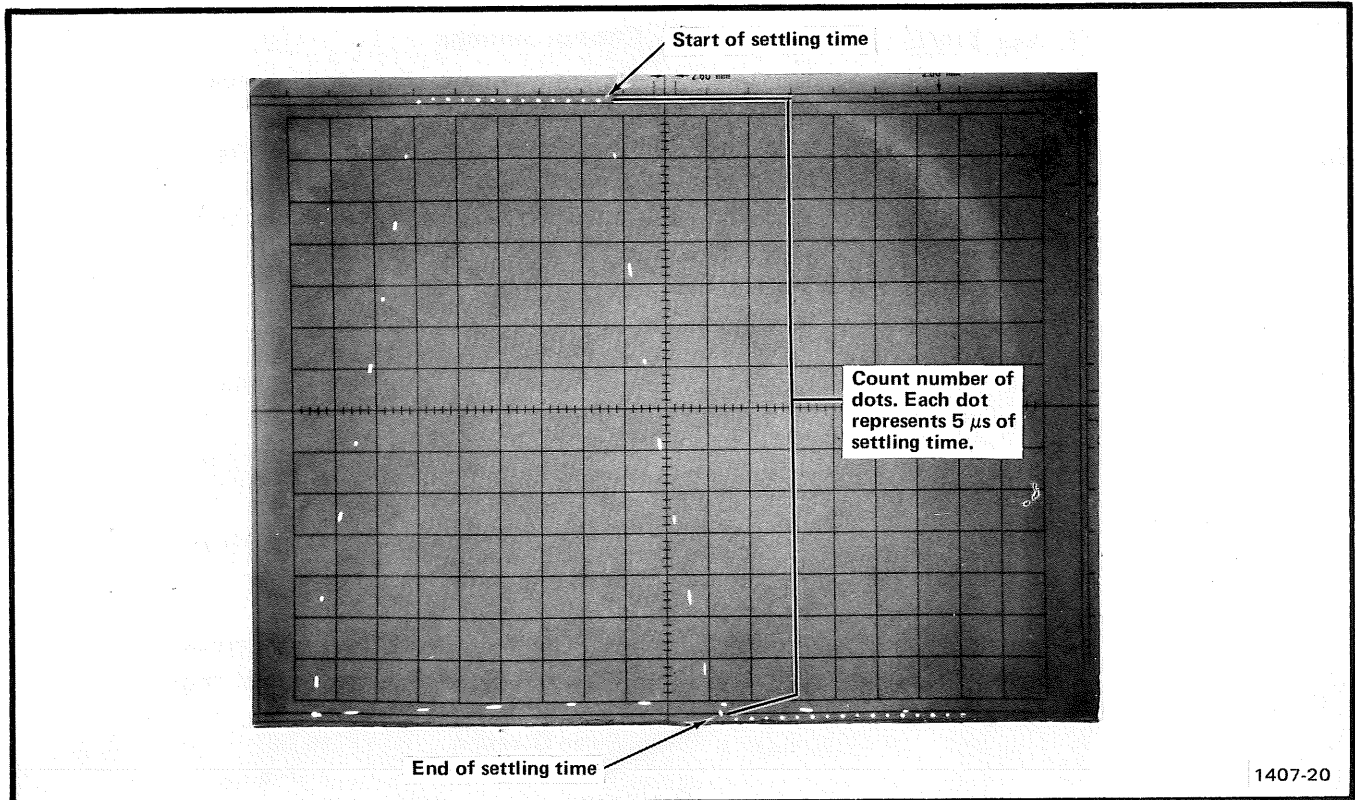

Fig. 3-9. Measurement of settling time on the short-axis.
- g. Turn up the 613 INTENSITY to normal viewing range. Adjust the test oscilloscope Triggering Level until a dot display appears on the 613. Adjust the PG501 Out Amplitude until the displayed pulse amplitude is 15 cm. Adjust the Sweep Attenuator to obtain a long-axis sweep length comparable to the illustration in Fig. 3-9.
- h. Use the PG501 Pulse Duration Variable to adjust the display until a dot just begins to break away from the top of the waveform. Settling Time is measured by counting the dots displayed between this break-away point and the point where the dots are positioned within one dot's width of the waveform baseline. Each dot represents 5  $\mu$ s of settling time. Refer to the display of Fig. 3-9.